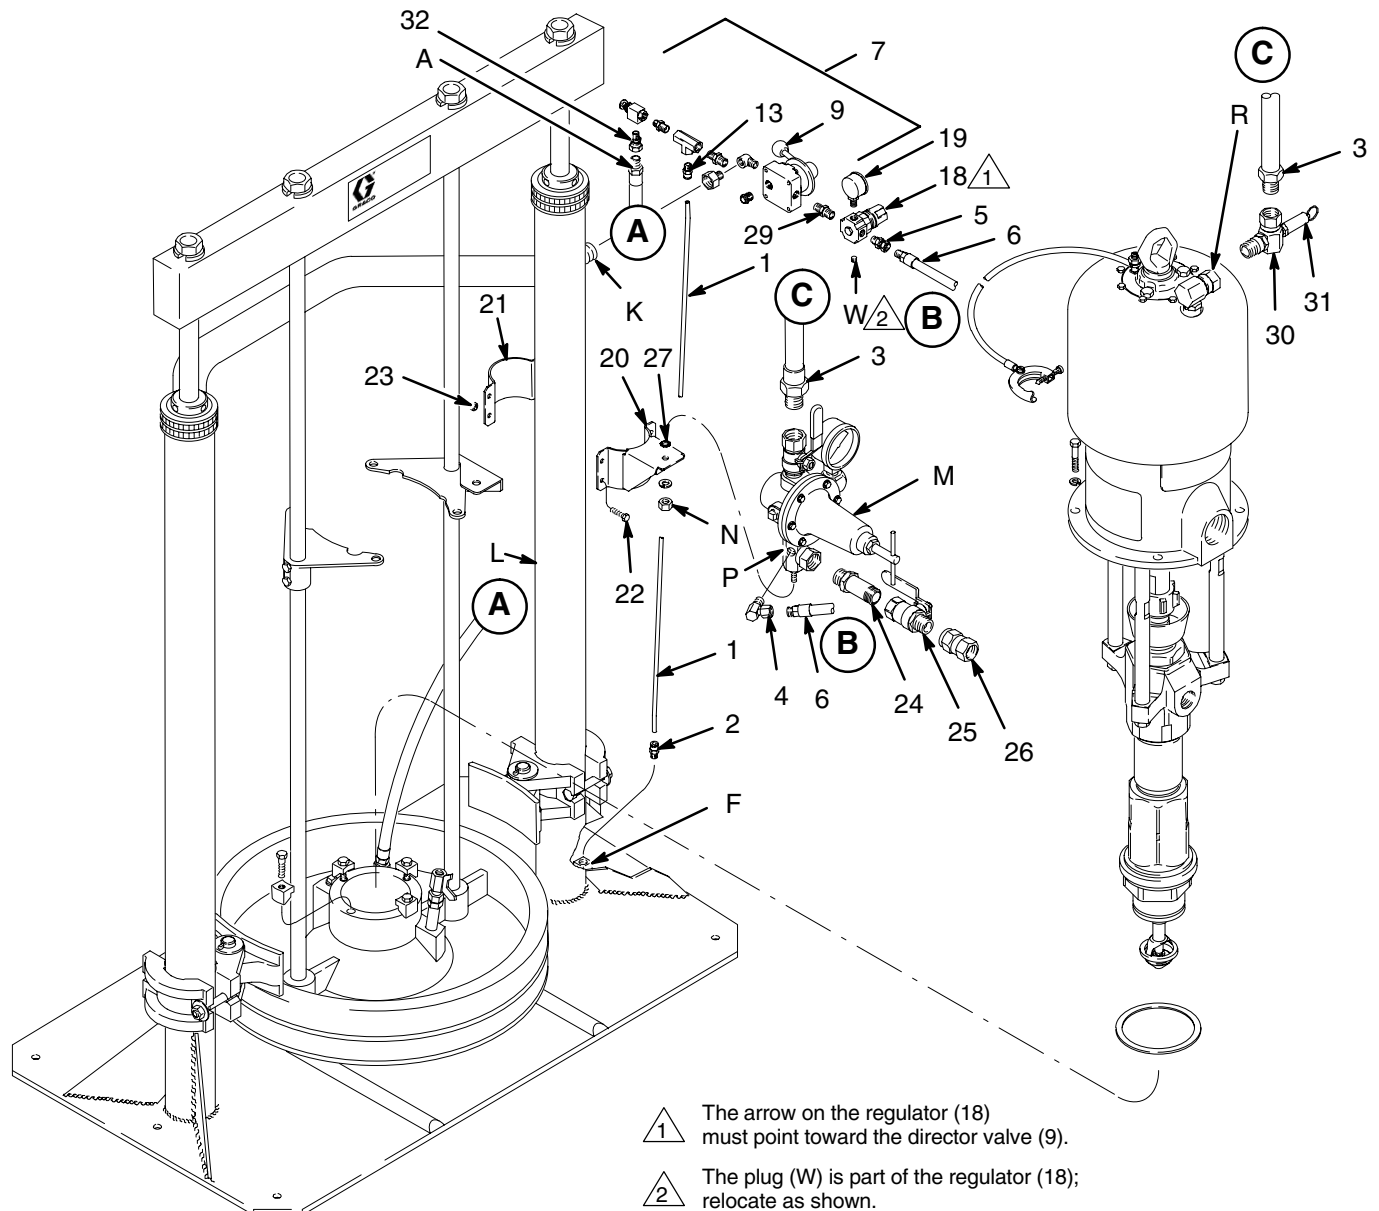

Fig. 2
1. Install the air control valve assembly (7) onto the air inlet (K) of the ram. See Fig. 2.
2. Remove the plug (W) from the air regulator (18); install the gauge (19) in its place, and reinstall the plug in the opposite port. Screw the air regulator onto the check valve (29) of the air director valve (9), making sure that the arrow on the regulator points toward the director valve.
3. Screw the union adapter (32) into the 3-way control valve (14). Connect the free end of the air assist hose (A) to the union adapter (32).
4. Screw the tube connector (2) into the port (F) at the base of the ram. Connect the tube (1) between the tube connector and the tube fitting (13) of the air control assembly.